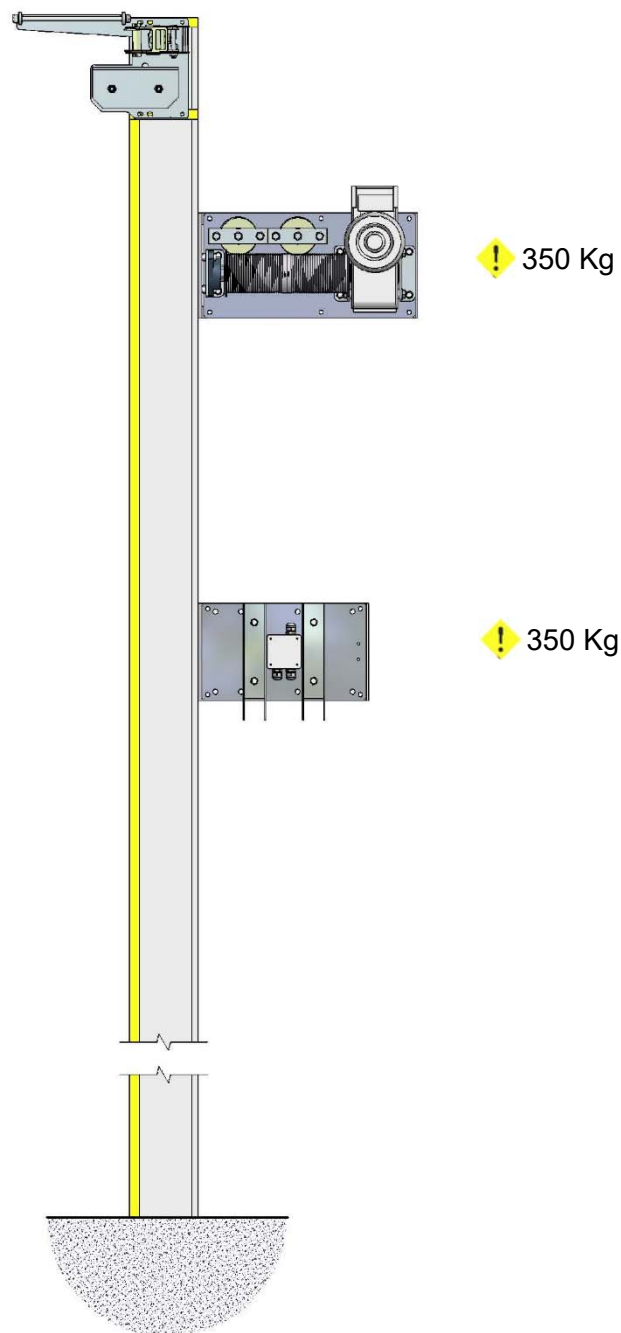

Figure 5
2.2 Bolt Electric Drive (B1) and Counterweight Plate (C1) onto pre-prepared brackets using the M10 Bolts supplied (Figure 5).